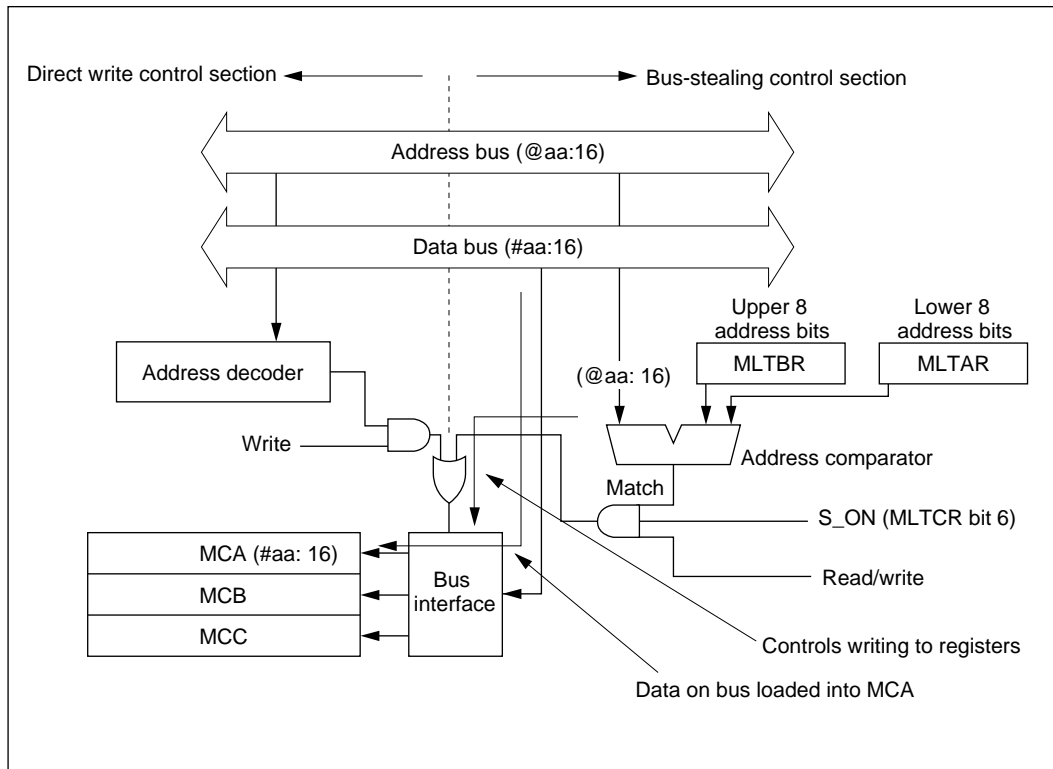

Figure 5-2 Loading of Data into Register MCA by Bus Stealing
(1) Loading of Multiplier by Bus Stealing: Figure 5-2 shows the loading of data into register MCA by bus stealing. If the S_ON bit is set to 1, the H8MULT module monitors the address bus when the CPU accesses its memory address space, and compares the address (@aa:16) on the bus with the MULT base address register (MLTBR) and MULT multiplier address register (MLTAR).